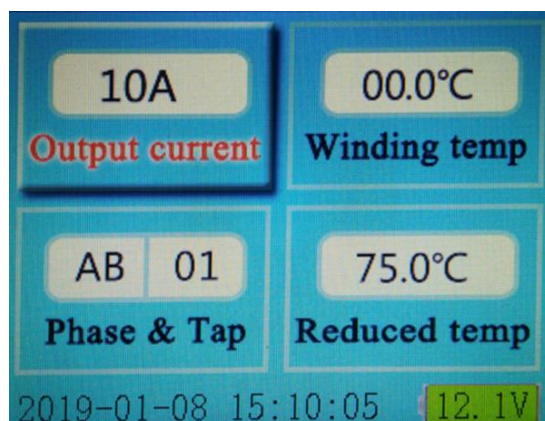

Figure 1
- 1) The boot interface displays as shown in figure 1: